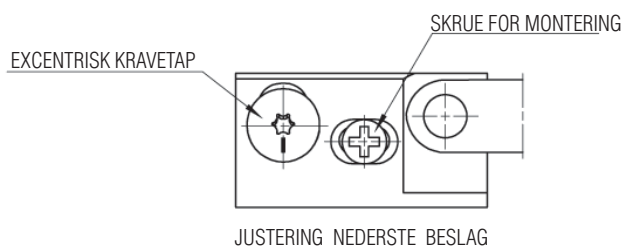

FIG. 2
2. VINDUESRAMMEN SKUBBES NU IND I MELLEM "ARM PÅ RAMME" (FIG. 2), STYRET AF RAMMENS NOTER OG SKRUES FAST. DER ANVENDES SKRUE 4.0.